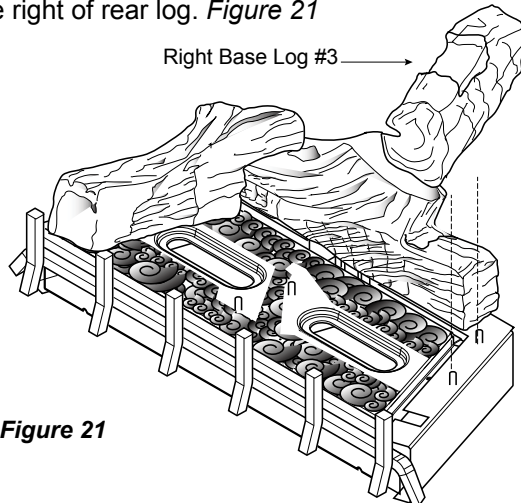

Figure 21
- Align holes in bottom of right base log #3 with two (2) to the right of rear log. *Figure 21*